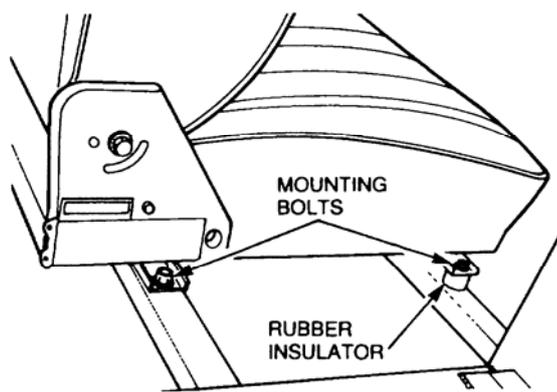

Figure 12 Rear Seat Mounting Bolts
- a. Remove the four bolts and washers securing the rear seat to the frame (refer Figure 12).